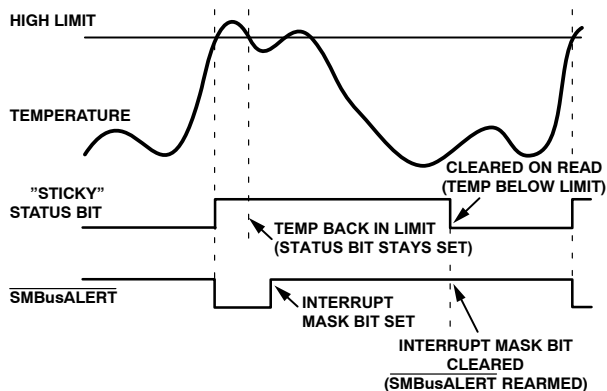

Figure 31. Handling $\overline{\text{SMBusALERT}}$
7. Periodically poll the status register. If the interrupt status bit clears, reset the corresponding interrupt mask bit to 0. The $\overline{\text{SMBusALERT}}$ output and status bits then behave as shown in Figure 31.